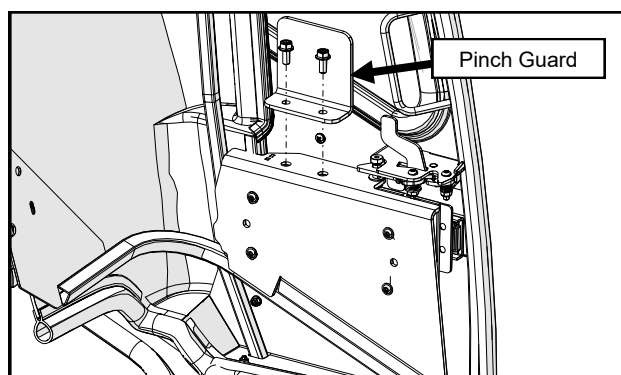

Fig. 6.1 (Pinch Guard Install - left side)
**6.1** Per figure 6.1, install pinch guard by hand with supplied hardware on hinge mounting bracket as shown on both the left and right sides. If it difficult to install, use a tap to clean the threads of the weld nuts.